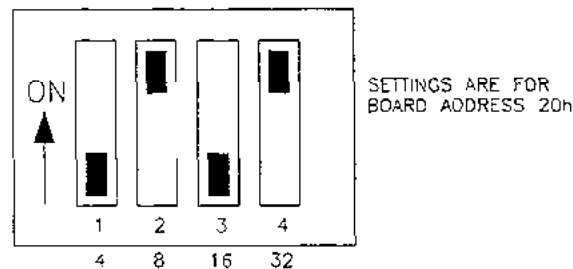

Figure 8D-2. Board Address Switch
Each M THERM-20 connected to a single MetraBus cable must have its own board address so that the MetraBus driver card can distinguish it from other boards within the system. Set the M THERM-20 board address with the switch shown in the Figure 8D.2.
- The numbers below the DIP indicate the value of the switch immediately above it; the switches have their indicated value only when On. For example, a base address of 20 corresponds to switch positions 1 and 3, as shown in Figure 8D-2.